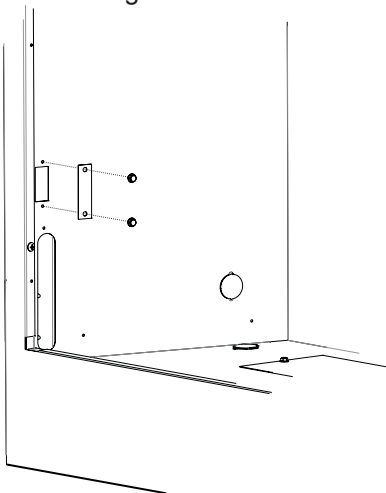

Figure 14
2. Remove the cover plate on the left side of the firebox and discard. See Figure 14.